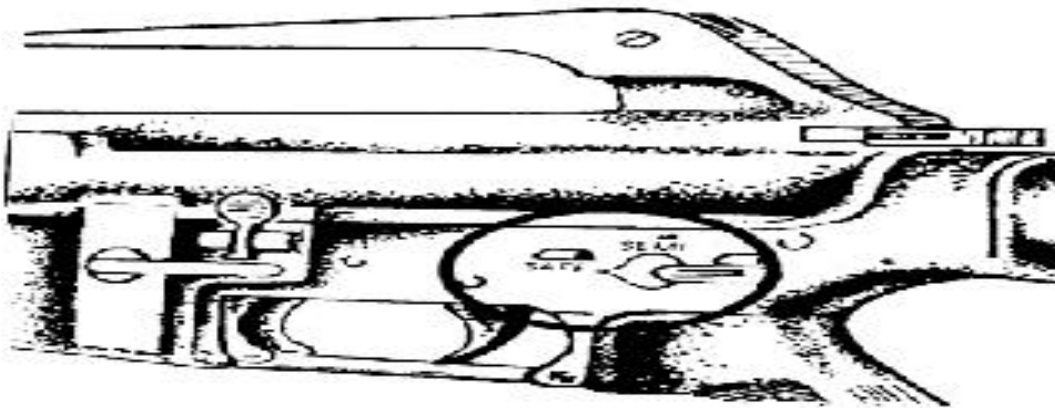

Figure E-1 Selector lever on safe
- c. Turn the selector to SAFE (figure E-1).